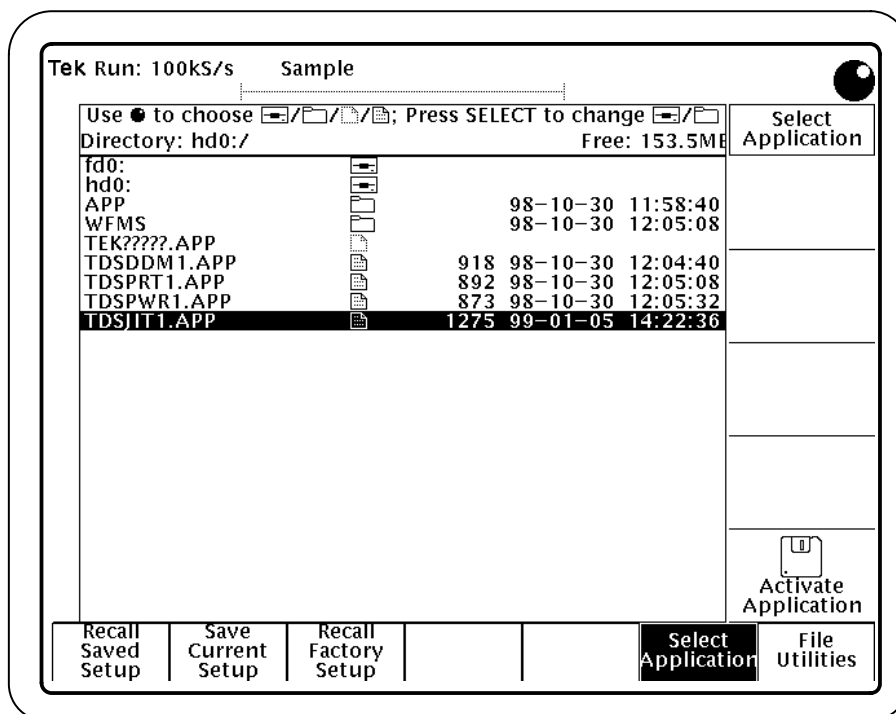

Figure 2: Starting the application
2. Use the general purpose (GP) knob to select **hd0**, and press **SELECT**.
3. Use the GP knob to select the **TDSJIT1.APP** title, as shown in Figure 2, and press **Activate Application** (side).